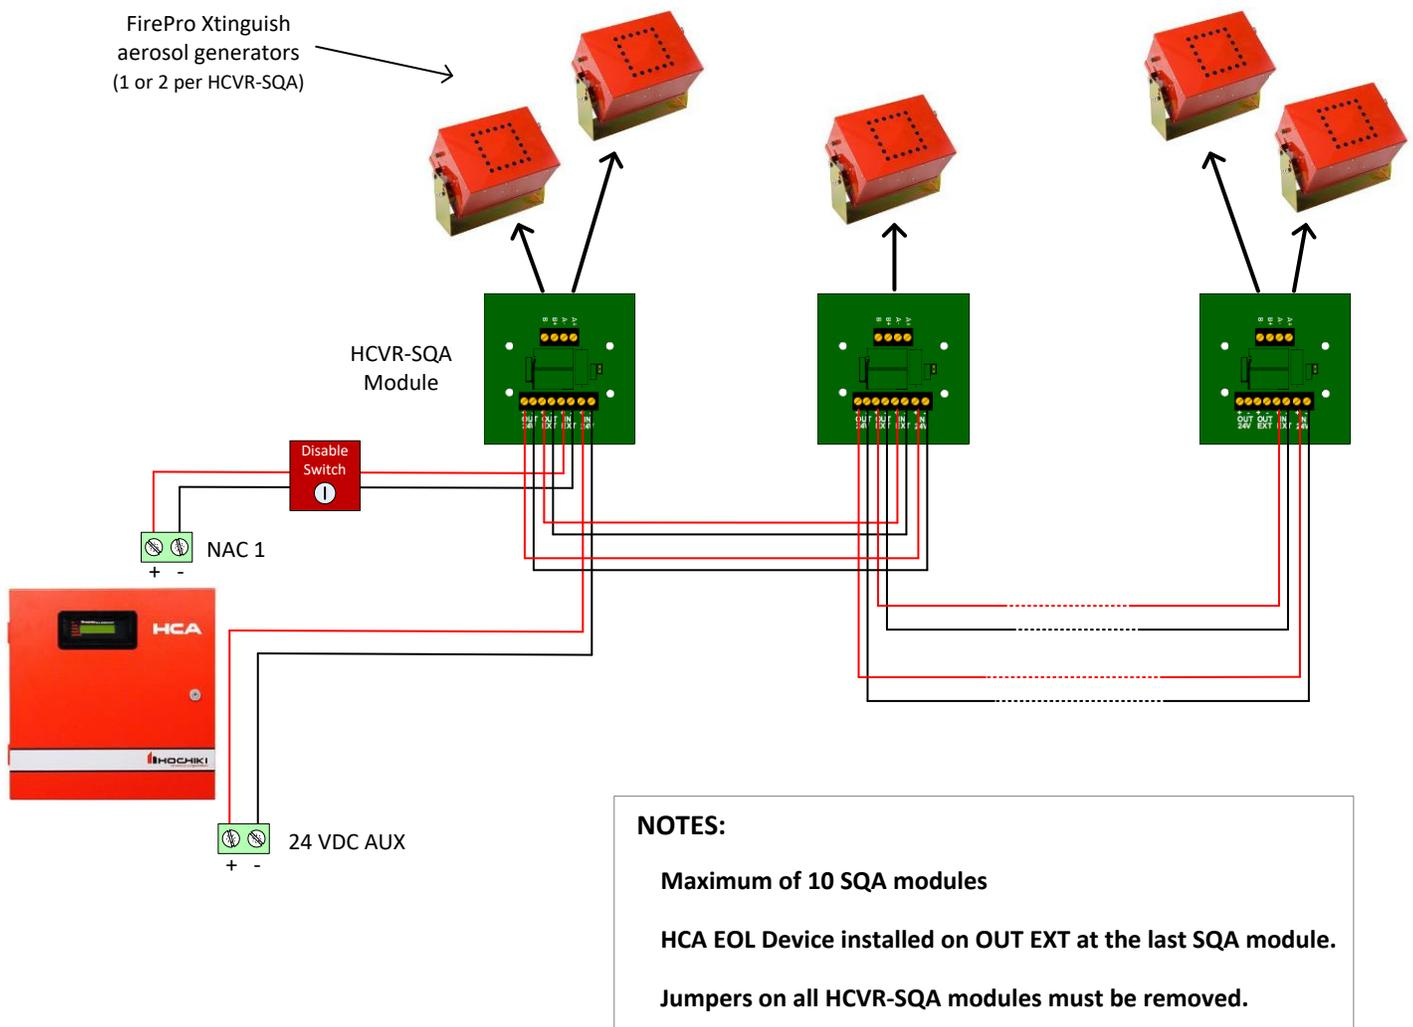

Figure 5.5 – Wiring Diagram using the HCVR-SQA and FirePro Xtinguish
- The End-of-Line device for NAC 1 must be located at the last HCVR-SQA on the circuit; see Figure 5.5.